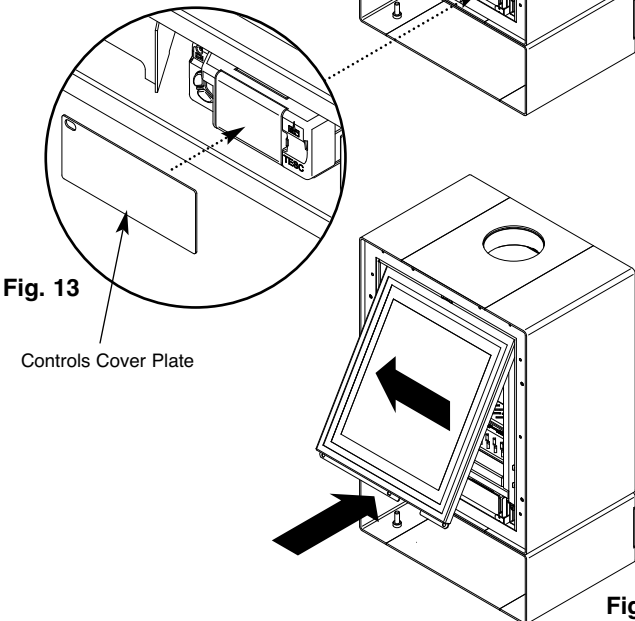

Fig. 14
9. Replace the glass door and secure with two 6mm machine screws screws (Fig. 14).